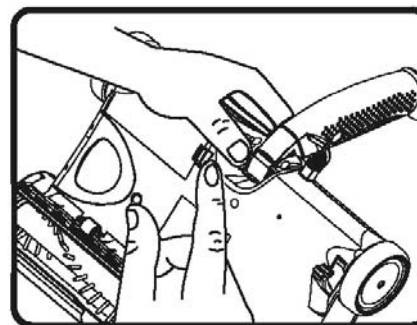

Fig. 17
2. Turn unit over so that the base is facing upwards. Be careful not to turn the unit ON. (Fig. 17)